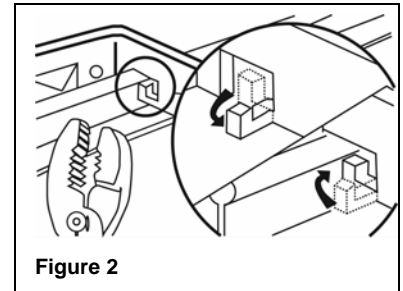

Figure 3
2. Make certain all power is disconnected prior to installing the fixture. Open the snap-on junction box captive door and remove the appropriate pry-out with screwdriver. Built in Romex clamps are accessible through the Romex pry-outs (See Figure 3). Bring supply wires into box by shielded cable or Romex cable.